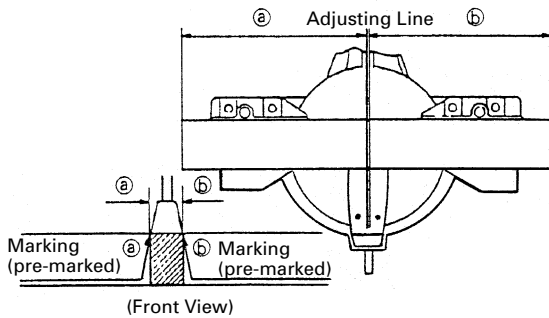

Fig. 23
- (1) As shown in Fig. 23 the width of the saw blade is the width of the cut. Therefore, slide the workpiece to the right (viewed from the operator's position) when length **b** is desired, or to the left when length **a** is desired.